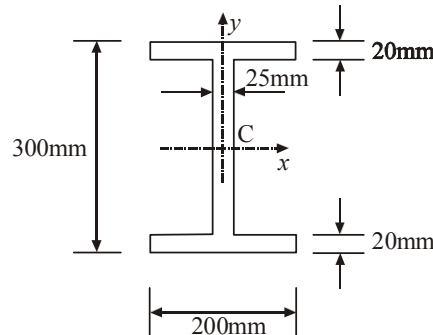

Fig. 3
7. State with neat diagram flexural formula of the beam. The cross-section of a beam has the dimensions shown in Figure. 3. If the beam is subjected to a negative bending moment of 100 kNm applied in a vertical plane, determine the distribution of direct stress through the depth of the section.